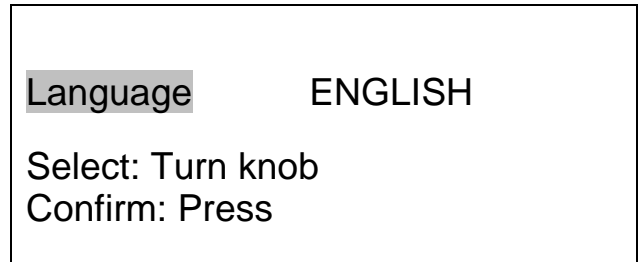

Fig. 43
- The display (fig. 43) now shows the terms in the desired language.